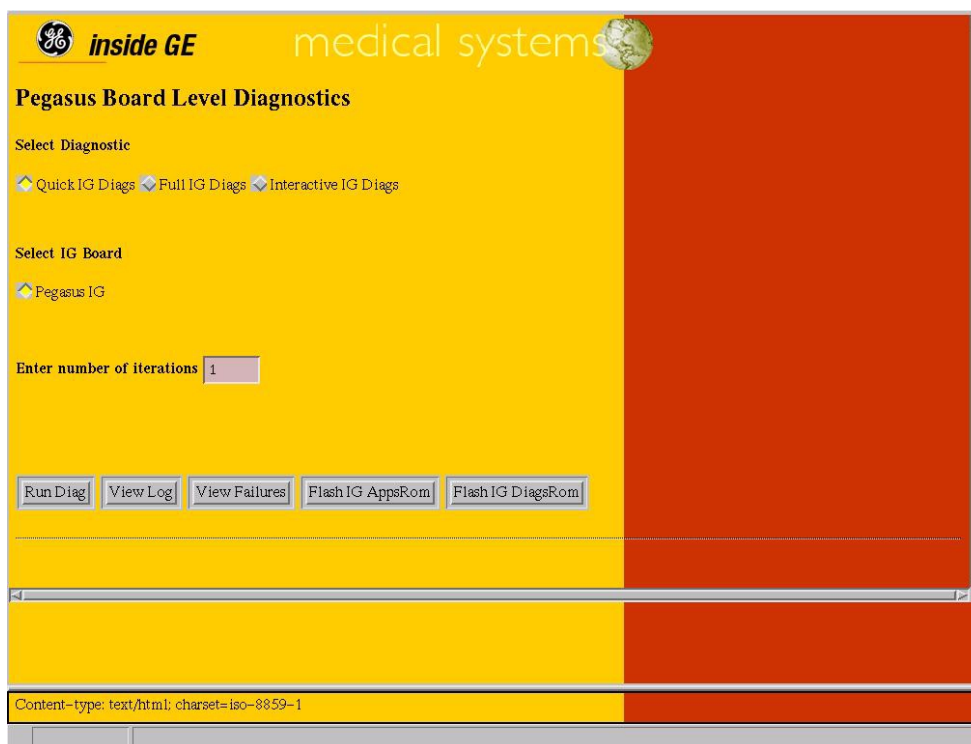

Figure 21 IG Board Level Diagnostic Screen
- 3.) Within the Diagnostic TAB, select the IG Diagnostic ICON in the file list menu on the left, by clicking on it. The IG Board level Diagnostic screen appears. (See Figure 21)